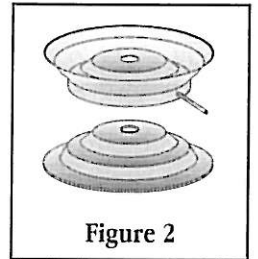

Figure 2
4. Place the upper adaptor disc on top of the lower disk ensuring the holes in each disk are aligned. See figure 2. Make sure the stem of the upper adaptor disk is in a convenient location and is pointing down.